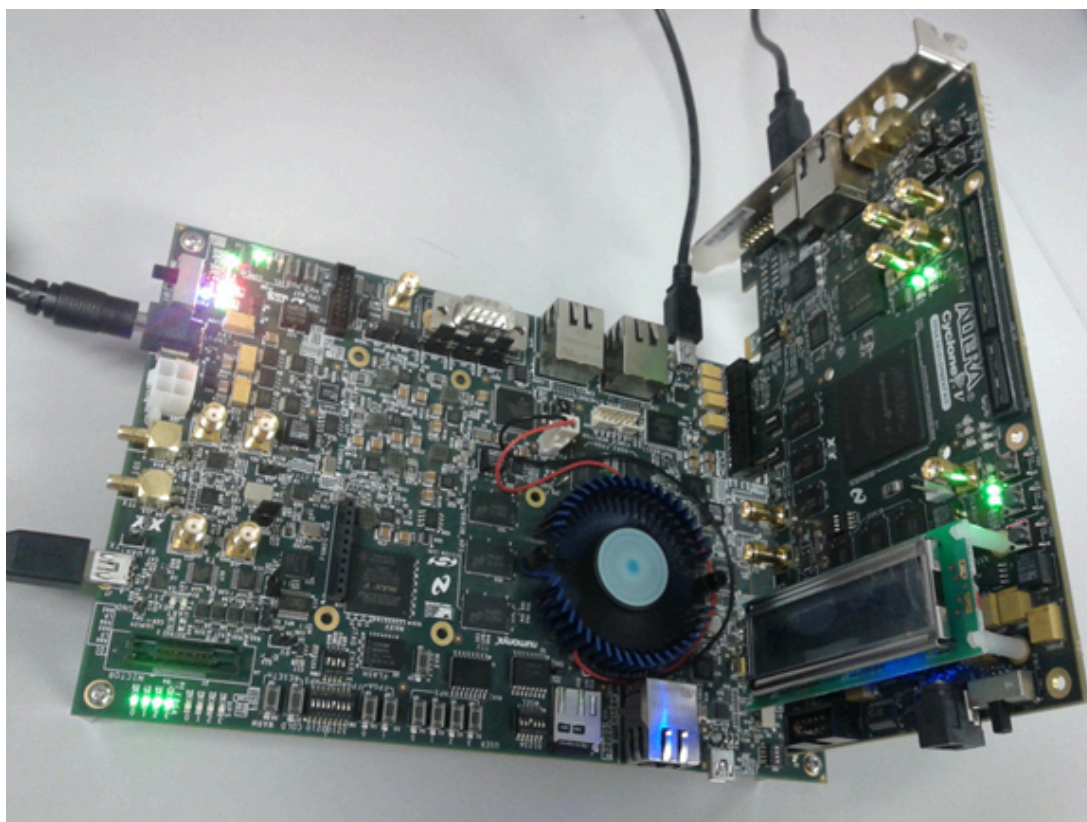

Figure 3: Cyclone V FPGA Development Kit (5CGXFC7) as End Point device
3. If setting up the Cyclone V FPGA Endpoint (Figure 3), configure the end point FPGA image (pcie_ep_ram_5cgxfc7.sof) with Quartus Programmer.